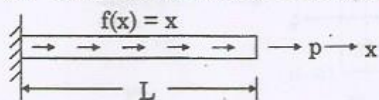

Fig. 1
11. a) Consider a bar of uniform cross-section shown in Fig. 1. The distributed force acting on the bar is varying linearly with x. Calculate the displacement in the bar using Ritz method and compare with exact solution.